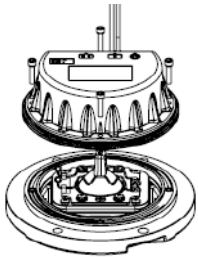

Figure 5-12
- Place the top of the lighting fixtures downwards and unscrew the screws with 4mm socket head wrench to separate the upper cover and inner cover of the lighting fixtures (see Figure 5-12).